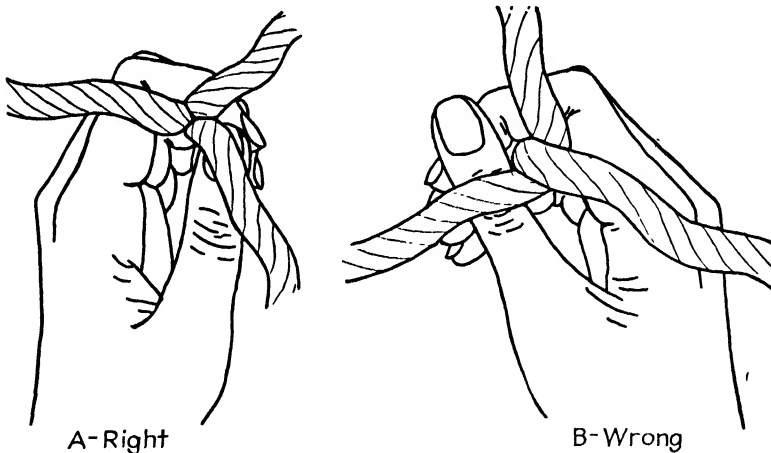

Fig. 8-30. Strands spread out preparatory to placing two ropes together for splicing.
2. Place the two ends together so that the strands from one end alternate with the strands from the other. Be sure that every strand branches outward from the main rope directly and without crossing over the center of the rope (see Fig. 8-30).